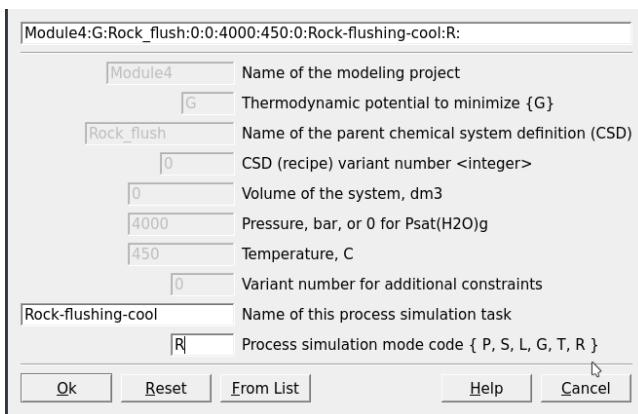

Figure 4.16: Input window the create a record for the flushing model.
- Call the new record "Rock-flushing-cool" and use the code R for the process simulation mode (Fig. 4.16).